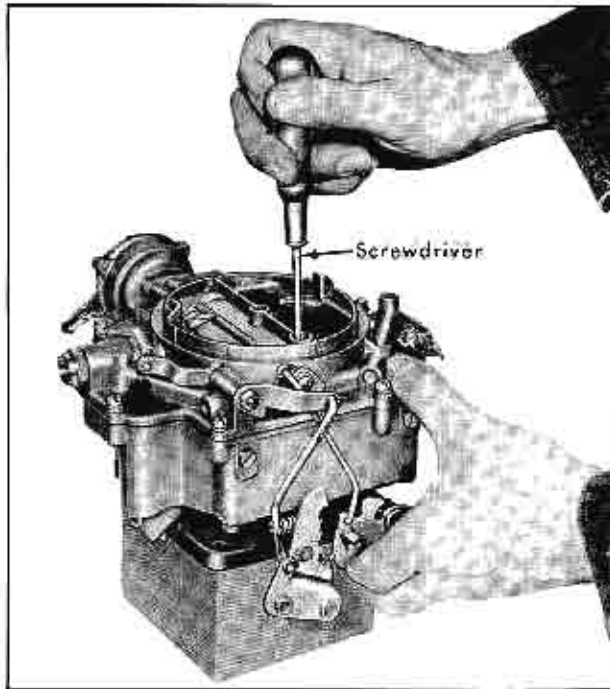

Fig. 12-43 Removing Bowl Cover Screws
5. Remove 3 inner and 10 outer bowl attaching screws with lockwashers. One of the inner bowl screws is located in a counterbore just inside the edge of the air horn as shown in Fig. 12-43. On cars equipped with the Idle Speed-Up Control, only 2 inner bowl and 7 outer bowl attaching screws remain to be removed. The other 4 have been removed previously.